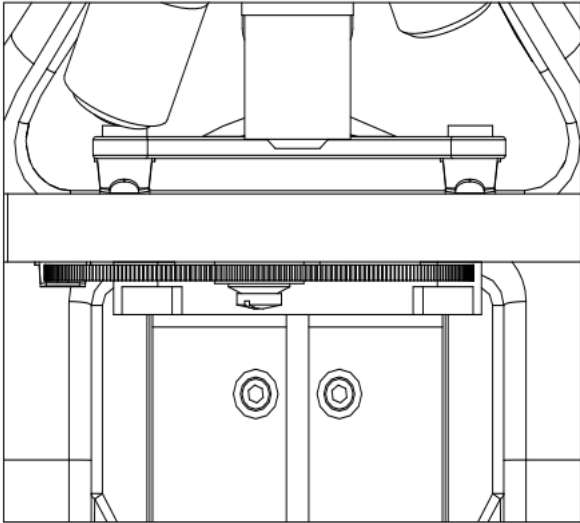

Fig.11
2. For the microscope with disc diaphragm, turn the diaphragm to select a aperture to get the back ground brightness suitable (see Fig. 11).